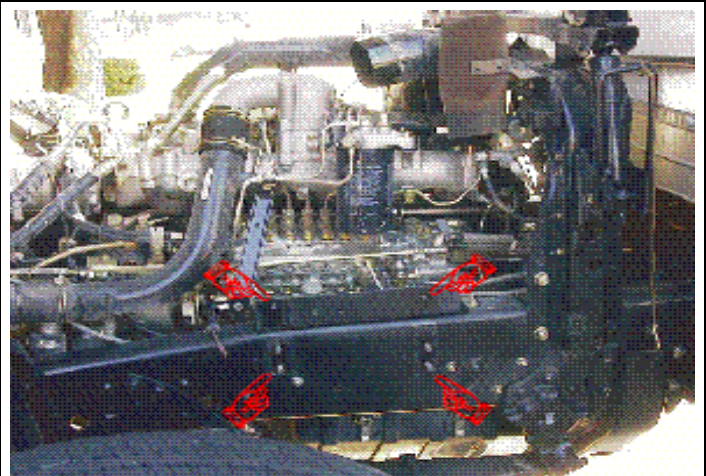

FIGURE 1
- Tilt the cab using the assist handle. When tilting the cab indoors, ensure there is sufficient cab height (H) and forward (F) clearance as illustrated above.
1. Remove the air filter assembly, noise shields and the left mudguard assembly. See Figure 1 on the right for the mounting bolt and nut location for these assemblies.